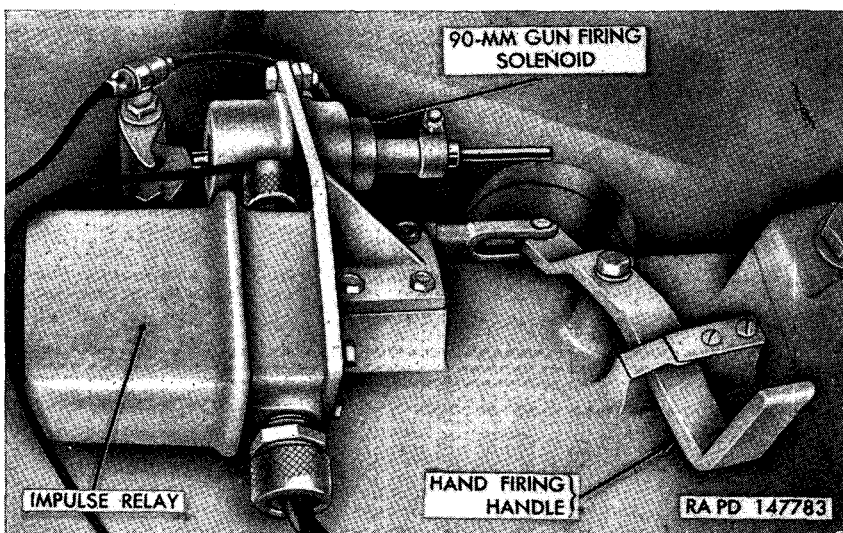

Figure 302. 90-mm gun firing mechanism.
j. 90-MM GUN FIRING MECHANISM. The 90-mm gun firing mechanism is secured to a bracket mounted on the 90-mm gun cradle (fig. 302). The mechanism consists of a firing solenoid and an impulse relay.
a. **FIRING SOLENOID** (fig. 302).
- (1) *Removal.* Disconnect firing solenoid cable at connector. Remove three screws securing solenoid to firing mechanism bracket and remove solenoid.
- (2) *Installation.* Position firing solenoid to firing mechanism bracket and secure with three screws. Connect firing solenoid cable at connector.
b. **IMPULSE RELAY** (fig. 302).
- (1) *Removal.* Using a screwdriver as a lever, unscrew and remove cap from impulse relay. Remove three cables from terminals inside impulse relay housing. Loosen two cable connector nuts at sides of impulse relay housing and pull out cables. Remove four screws and remove impulse relay from firing mechanism bracket.
- (2) *Installation.* Position impulse relay to firing mechanism bracket and secure with four screws. Insert three cables through connector openings on sides of impulse relay housing and secure to cable terminals. Install impulse relay cap and screw into impulse relay housing, using a screwdriver as a lever.